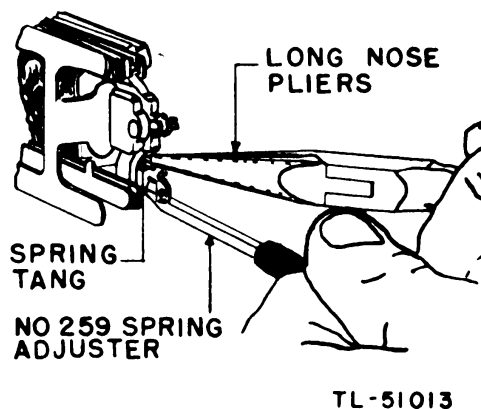

Figure 56. Method of adjusting a spring tang of an E- or R-type relay.
the contact is made. Armature studs which pass through contact springs must not rub on those springs. Spring tangs should overlap the spoolhead on which they rest by at least 1/32 inch but should not rub on the spoolhead when the spring is moved (fig. 56). Move the springs up or down as required to meet these requirements. Loosen the spring assembly screws if necessary. Adjusting to meet one of the above requirements may throw another out of limits. Check all of the above requirements after making any of the above adjustments.
(3) Adjust the armature travel to the value shown on the circuit requirement tables VII to XI. If the special gauges used with this relay are not available, use the Western Electric Co. 74D gauge nest furnished with each switchboard. Insert the proper blade or combination of blades of the 74D nest between the armature and the adjusting nut with the armature against the core.
(4) On relays having break (normally closed) contacts, *except* contacts 4-6 top and bottom of relay M (operator's telephone circuit), there should be a slight clearance between the armature stud and the spring when the relay is unoperated. The separation between any pair of contacts, normally open or opened when the relay is operated, should be at least 0.005 inch. The follow on make (normally open) contacts when the relay is operated shall be perceptible. Adjust the armature stud clearance and the contact separation, and follow by bending the spring tangs as required (fig. 56). Spoolhead springs should be tensioned firmly against the spoolhead when the relay is unoperated. On bifurcated (double) contacts on the UA-type relays, both contacts on a spring should make at approximately the same time. All springs should be adjusted so that the tension is consistent with meeting the electrical requirements (par. 40) to give good contact pressure between made contacts, either normally made or normally open. Adjusting to meet one of the above requirements may throw another out of limits. Check all of these requirements after adjustments have been made.